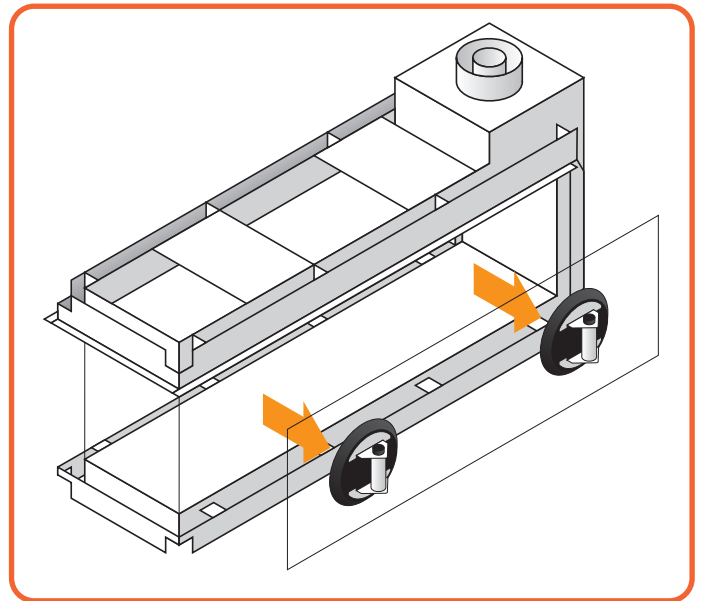

Figure 10.6 - Remove glass
- Lift the glass out of the lower glass rail and tilt it out through the opening, as seen in **Figure 10.6**.